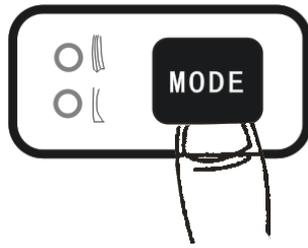
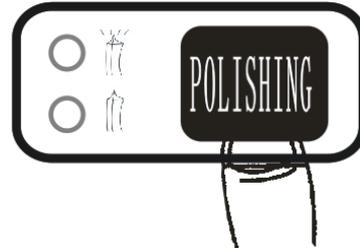

Fig7
Fig8
- b. When “rimless” or “bevel” is selected, you can also select polishing or not polishing functions(Fig 7 and Fig. 8)